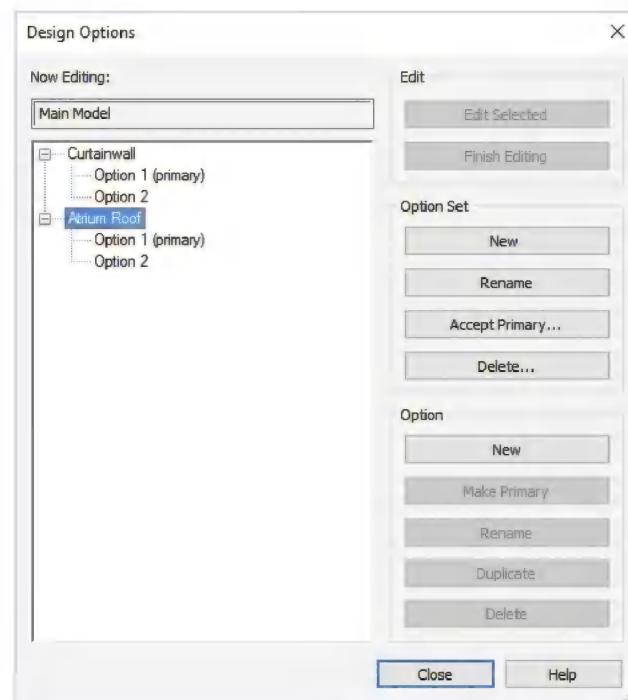

FIGURE 8-6.6 Design Options Dialog
8. Create an *Option Set* for the roof (Figure 8-6.6):